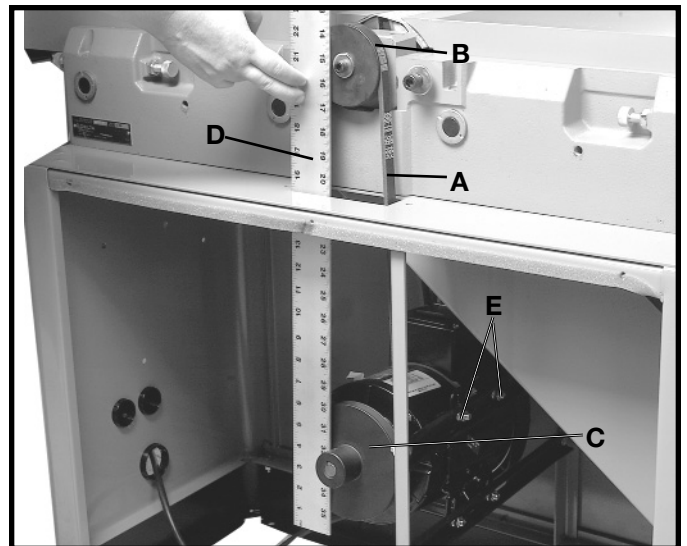

Fig. 8
1. Place belt (A) Fig. 8, in groove of cutterhead pulley (B) and motor pulley (C).
2. Make certain the motor pulley (C) Fig. 8, is properly aligned with cutterhead pulley (B) by placing a straight edge (D) Fig. 8, onto the face of each pulley as shown.
3. If an adjustment is needed, the motor pulley can be moved in or out on the motor shaft, or the motor can be shifted by loosening motor mounting screws, two of which are shown at (E) Fig. 8. After adjustments are made, tighten motor mounting hardware and motor pulley set screw.